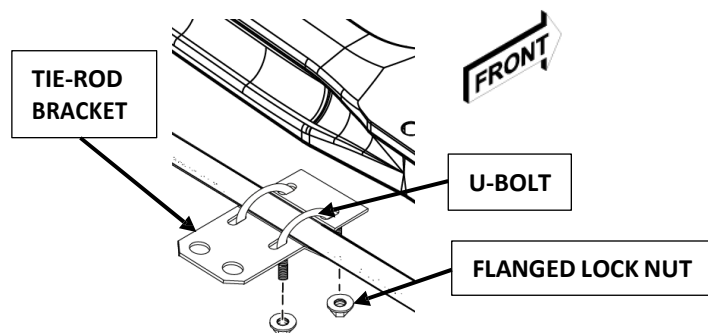

FIGURE 3. TIE-ROD BRACKET INSTALL TO TIE-ROD
5. On passenger's side of Tie-Rod, place **Tie-Rod Bracket** on bottom of the Tie-Rod. With **U-Bolt** threads facing down, loosely install **Tie-Rod Bracket** onto Tie-Rod with two **U-Bolts** and four **Flanged Lock Nuts** (Figure 3).
9. Rotate **Tie-Rod Bracket** assembly until SAFE T PLUS® unit is parallel to Tie-Rod and is able to move freely without potential contact with any other parts on vehicle. Using a torque wrench with a 9/16-inch socket, torque four **Flanged Lock Nuts to 20 foot pounds** (*Figure 3*).
5. For the person outside of the vehicle, gain access to SAFE T PLUS® unit. Using a socket wrench with a 9/16-inch socket, and loosen **Flanged Lock Nuts** on Tie-Rod Bracket **U-Bolt** and allow the SAFE T PLUS® unit to freely move to its centered position. Once the SAFE T PLUS® unit rests at its centered position, using a torque wrench with a 9/16-inch socket, torque Tie-Rod Bracket **Flanged Lock Nuts** to **20 foot pounds** (*Figure 3*).
6. Repeat road test until vehicle is able to maintain a straight trajectory. If centering the SAFE T PLUS® unit requires more than 2 or 3 attempts, please contact our technical support team at (770) 322-8727 for further assistance.